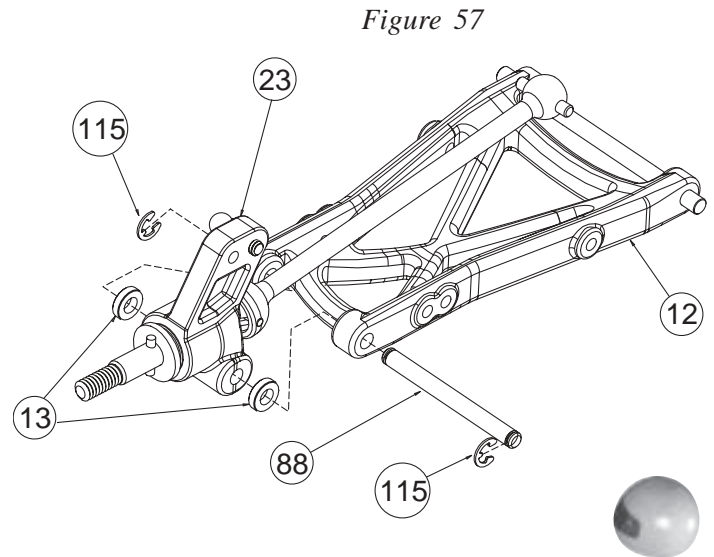

Figure 57
1. Attach the left rear hub (23) assembly to the left rear arm (12) by aligning the holes in the rear hub (23) with the holes in the rear arm. Place one 0.060 rear hub spacer (13) on either side of the hub. Insert a 1/8" x 1.350" hinge pin (88) through the arm into the hub as indicated in Figure 57.
2. Secure the hinge pin by placing an e-clip (115) on each side of the hinge pin.
3. Repeat Steps 1-2 for the remaining right rear arm (11) and right rear hub (24) assembly.